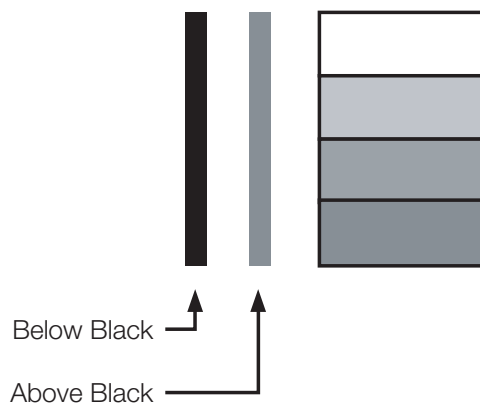

**Figure 4-2. Typical PLUGE Pattern for Adjusting Brightness**
**Brightness:** On your external test pattern source, select a PLUGE pattern. (PLUGE is an acronym for “Picture Line-Up Generation Equipment.”) Figure 4-2 shows a typical PLUGE pattern.